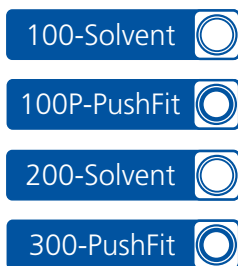

Fig.3d Assembling/applying pressure
**Step 4** – Assemble immediately, applying firm, even pressure until collar is correctly positioned (Fig.3d)